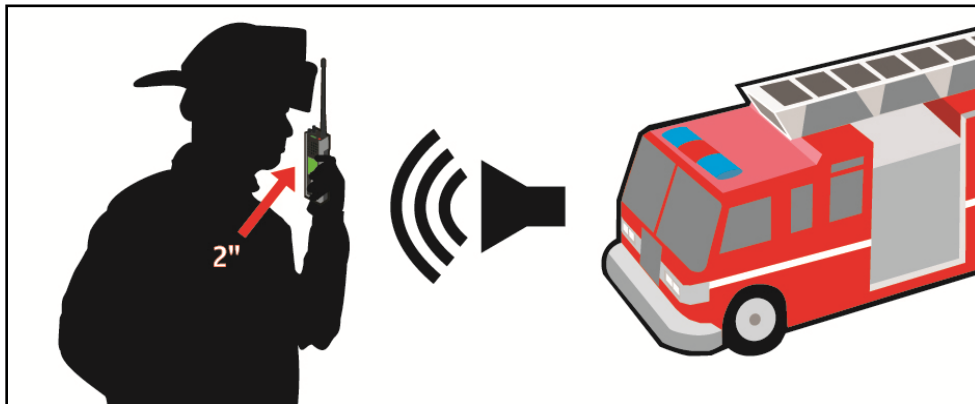

Figure 9-8: Using the Noise Cancellation Feature
- Talk within two (2) inches of primary microphone (see Figure 9-8).
- If possible, face the noise source when talking into the radio (see Figure 9-8).